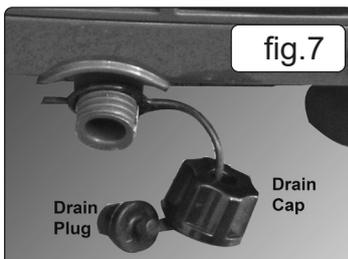

fig.7
- 5.4.1. If the machine shuts down because of excess water in the drain tank (as in 5.3.2.), disconnect from mains power. Move the machine slowly to avoid spilling condensate. Drain the tank (fig.7) by unscrewing the drain cap, removing the drain plug and draining the collected water into a suitable container or drain.
6.3.1. If the unit is not to be used for a long period of time, drain off any water in the tank. Place a large enough container under the rear of the unit, remove the rubber drainage stopper (fig.7) to allow the tank to drain. When the tank is empty, replace the stopper firmly. Clean the unit and air filter as above, and store in a safe, dry area, out of the reach of children.